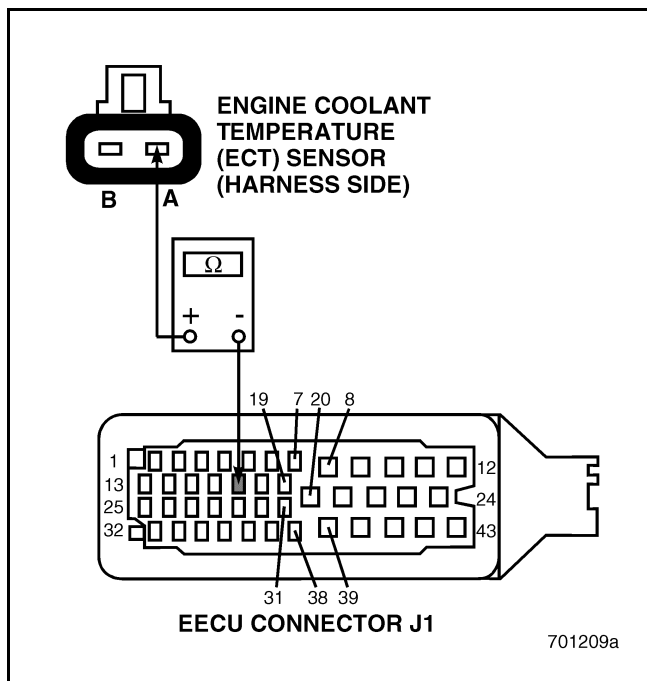

Figure 145
4. Check for continuity between pin A of the ECT Sensor harness connector and EECU harness connector J1 pin 17 (see Figure 145).